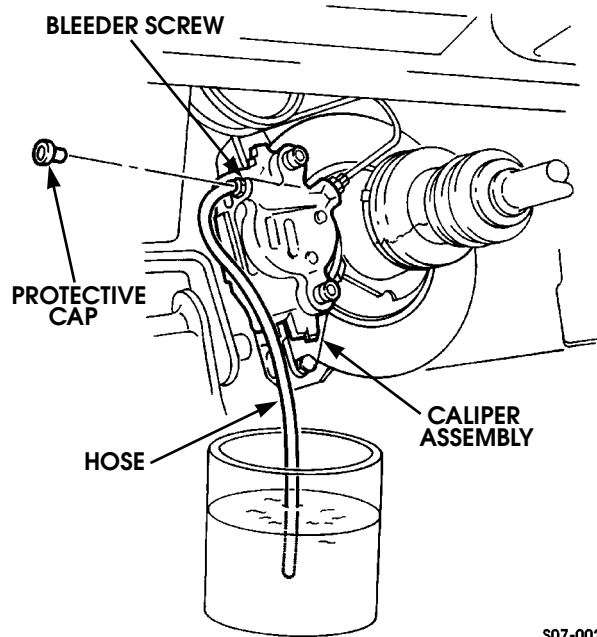

Figure 7-5: Manually Bleeding Brake System
4. Remove protective cap from bleeder screw on caliper assembly (Figure 7-5).
7. Open bleeder screw 3/4 turn and observe brake fluid in container. Close bleeder screw when brake fluid flows free of air bubbles (Figure 7-5).
1. Remove protective cap from bleeder screw on caliper assembly (Figure 7-5).